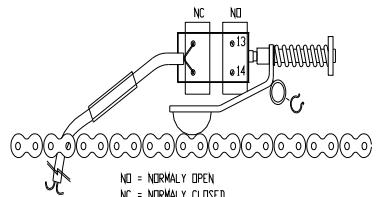

Fig.17
### CHAIN SWITCH (Fig.17+18)
1. Connect the wire to the safety switch according to Fig.17.